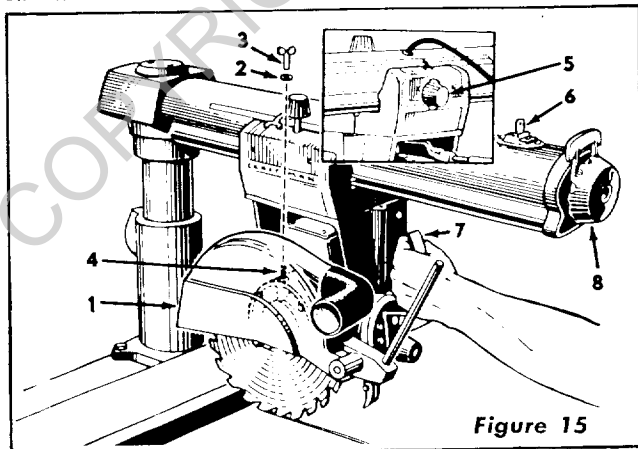

Figure 15
- Attach saw guard (Item 1, figure 15) washer (Item 2) and wing nut (Item 3) to motor and motor stud (Item 4).
- Tighten carriage lock knob (Item 5, figure 15).
Before cutting always be sure that the arm latch handle is locked fully clockwise. (Item 8, figure 15.)
- Insert switch key (Item 6, figure 15) and press "On".
To cut a blade clearance groove in the table and fence hold the bevel index handle (Item 7, figure 15) with the left hand and loosen the carriage lock knob (Item 5, figure 15) with the right hand. Slowly pull the motor with the left hand out to the extreme end of travel and then push the motor back through the fence to the extreme rear position. Push the key switch "Off".